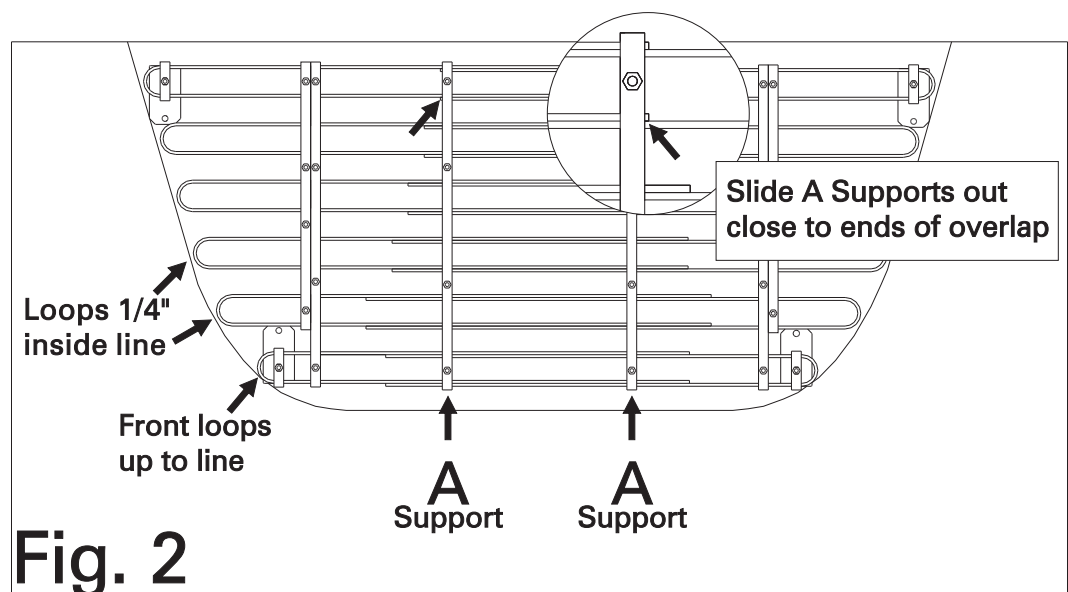

Fig. 2
4. Loosen all nuts about 1 1/2 turns. Slide front set of loops out even with traced line. Slide all remaining loops out to 1/4" inside traced line. If loops will not slide easily then check to see that all bolts are loose and that supports remain straight to keep them from binding on loops (SEE FIG. 2).
5. With grate properly adjusted and positioned in pattern, temporarily tighten right side A support (this will lock position of loops). Slide left A support away from right A support as far as possible WITHOUT GOING PAST EDGE of overlap (rear loops usually have least amount of overlap). When sliding supports it is necessary to move both ends at same time (holding support perpendicular to loops) to avoid binding on loops. Now tighten bolts on left A support (SNUG IS BEST - DO NOT OVER TIGHTEN). Loosen right A support and slide away from left A support in same manner, then tighten (SEE FIG. 2). The overlap area between the supports maximizes the grate's rigidity. There should never be less than 2" space between the A supports. If this is the case then DO NOT USE THE GRATE, contact your dealer for options.